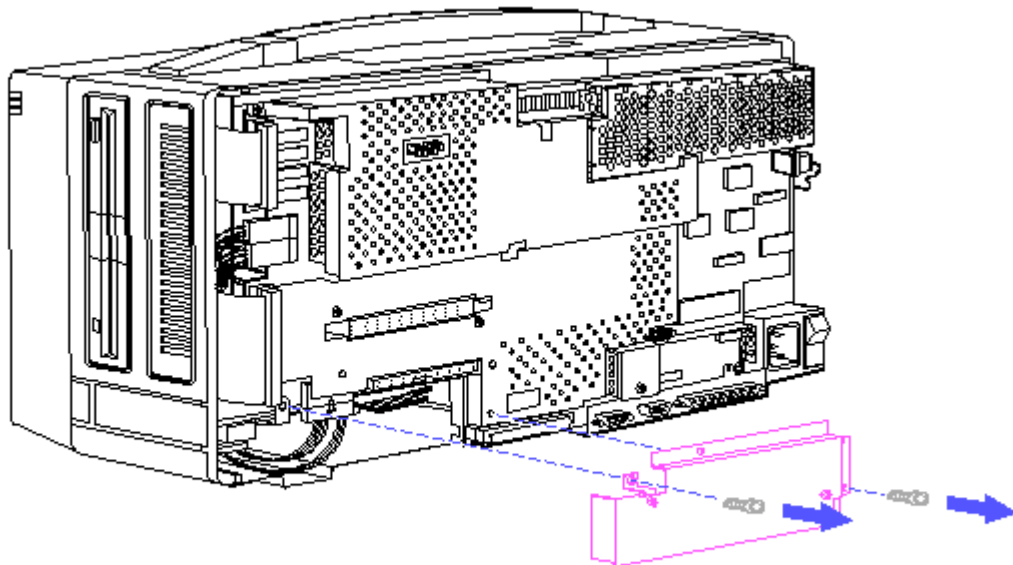

Figure 8-12. Removing the 32 Bit Memory/Modem Interface Board
5. Grasp the 32 bit memory/modem interface board at its edges and, without rocking it, lift it straight up and away from the computer (Figure 8-12).